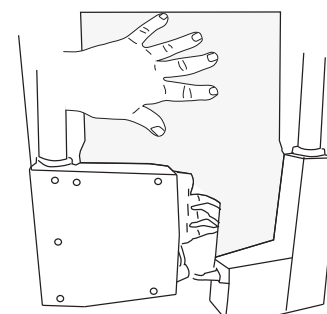
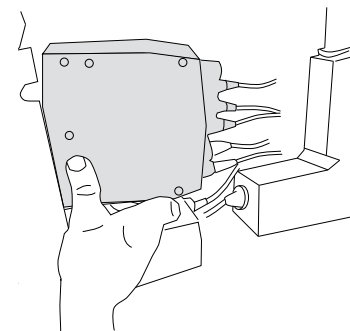

Figure 48.
Figure 49.
5. Push inner shroud forward (Figure 48) while sliding the control box off of the actuator (Figure 49).